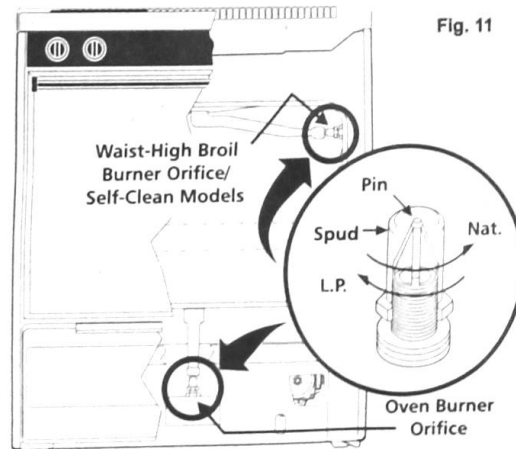

Fig. 11
- Locate the oven burner spud (See Fig. 11).
- Locate the broiler burner spud and turn down until snug against the LP/Propane metering pin (approximately 1 to 1-1/2 turns). (See Fig. 11).